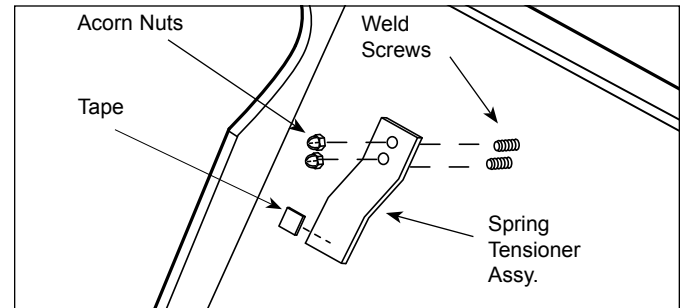

Figure 7. Replacing Spring Tensioner Assy.
1. Remove the Acorn Nuts (Figure 7).